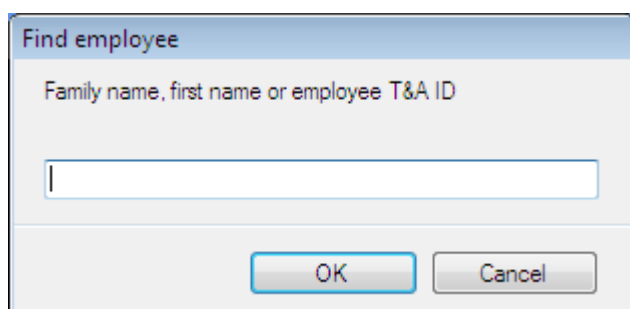

Figure 36. Finding employee dialog box
- ♦ **Find employee...** — opens the **Find employee** dialog box (Figure 36).